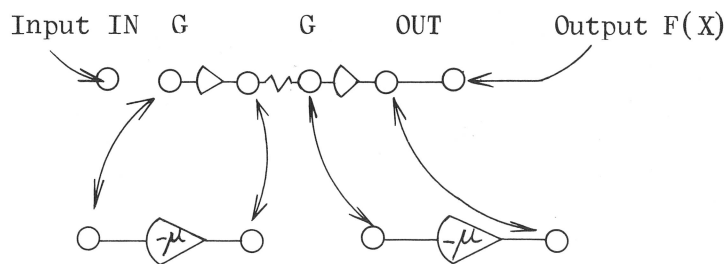
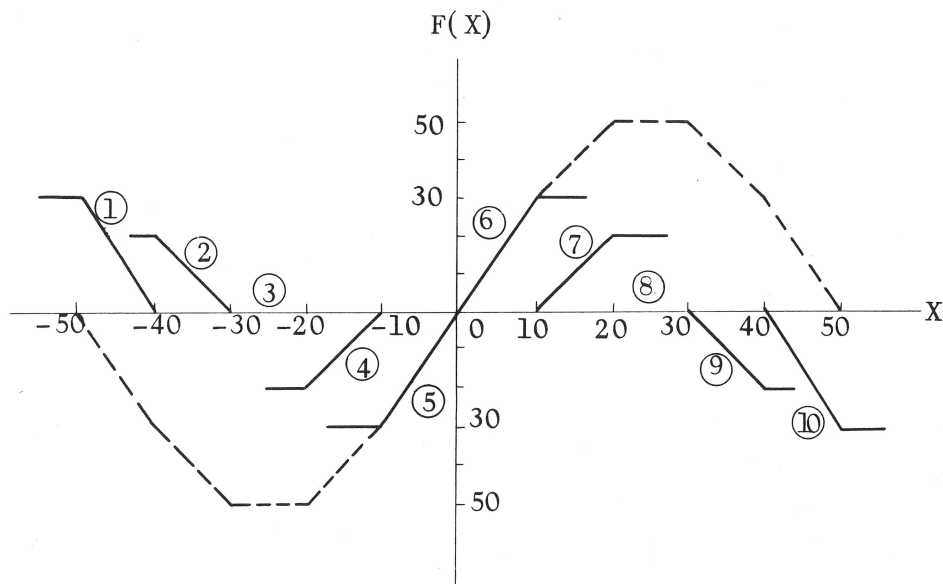

Fig. 3-2
Fig. 3-5
1. Patch the two universal operational amplifiers using the amplifiers in this panel or linear panel. (Refer to Fig. 3-2)
First of all carry out the basic patch shown in Fig. 3-2. Combining trapezoidal wave forms 1 through 10, the overall pattern shown with dotted line in Fig. 3-5 will be obtained for this function.
- iv) Position the "SET SW" switch located at the right-hand side below this panel at +50V side. Starting from the linear segment ⑥ in the right-hand side of X axis the setting is
made in the order of ⑦ - ⑨ as shown in Fig. 3-5.